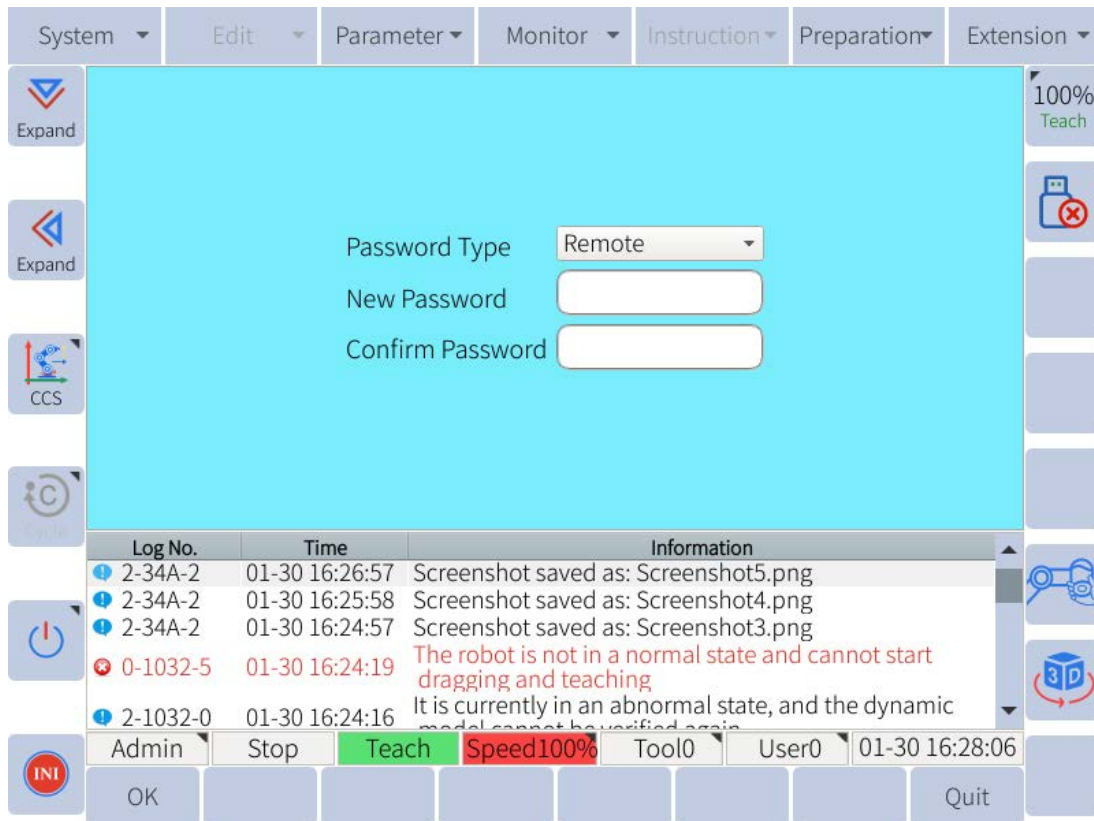

Figure 11-3 : set password
2. Select the password type, enter the new password and confirm it, as shown in **Figure 11-3** .